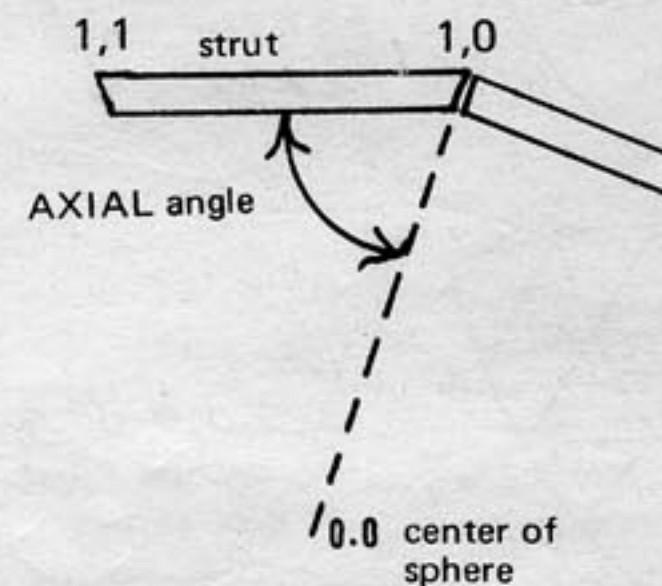

Fig. 2
- **AXIAL 0,0 1,0 1,1** refers to the angle between a line drawn from the center of the sphere (0,0) and vertex 1,0, and the strut 1,0 1,1 (Fig. 2). It is the angle that a strut meets its hub from the side view. Note that it is *not* the entire included angle under a hub, but only to the line from the hub to the sphere center. The value is DEGREES.  $90^\circ$  minus the axial angle equals angle you cut or bend struts.